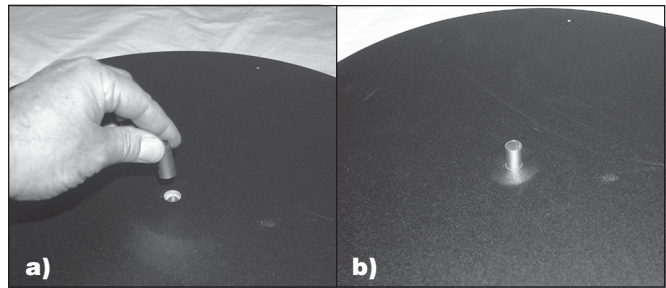

Figure 10. a) Insert the azimuth axle sleeve into the center hole of the bottom groundplate, so it looks like **b)**.
7. Place the metal azimuth axle sleeve in the center hole of the bottom groundplate, as in **Figure 10**.